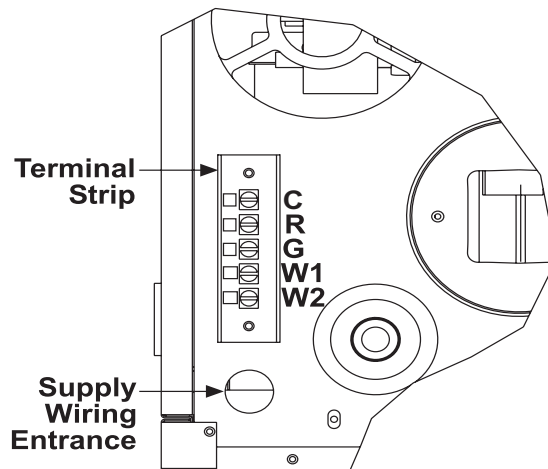

Figure 6. Supply Wiring Entrance and Control Connection Terminal Strip
- The supply wiring enters at the rear of the heater (see Figure 6) and connects directly to leads on the integrated circuit board.
- The terminal strip for 24V control connections is located on the outside of the cabinet at the back of the heater, as shown in Figure 6. Wires from the terminal strip are factory-wired to the circuit board.
- Make thermostat connections at the terminal strip on the back of the heater (see Figure 6). The strip has five terminals: C, R, G, W1, and W2. Refer to the wiring diagram provided with the heater.